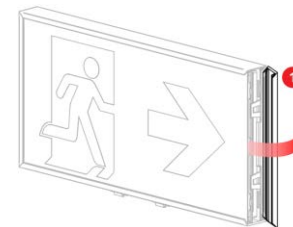

FIGURE 4
2. Remove Side extrusion (see Figure 4)